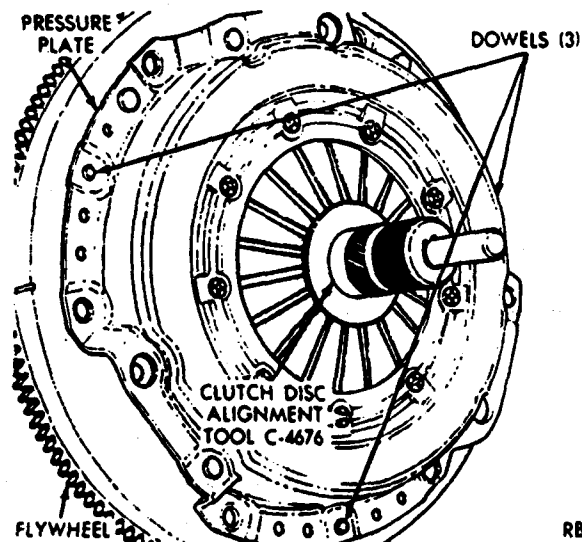

Fig. 4—Manual Transaxle Clutch Disc Aligning Tool
(1) Remove or install transaxle. See "Group 11 Manual Transaxle," for procedure.
(2) Mark clutch cover and flywheel, to maintain their same relative positions when reinstalling clutch assembly.
(3) Insert Clutch Disc Aligning Tool C-4676 through the clutch disc hub to prevent the clutch from falling and damaging the facings (Fig. 4).